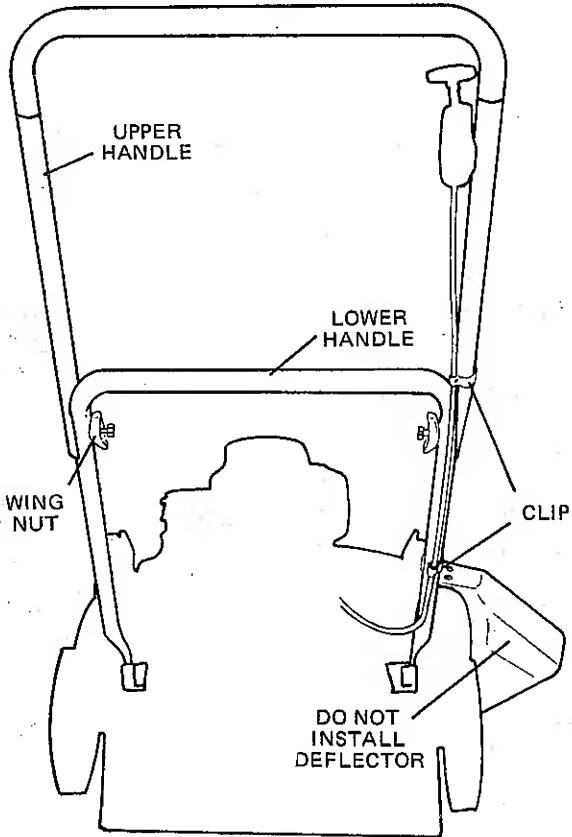

Figure 1
- Straighten upper and lower handles out and lock them in position with two wing nuts. (Figure 1) Use care not to loosen throttle control cable from clips on handles or kink throttle control cable when folding or unfolding.
- If the grass bag is used, the deflector should be mounted on top of the grass bag clip using two Phillips head screws, lockwashers and hex nuts (Figure 1). Use the holes nearest to hook for 22" mower and two farthest for 20" mower.